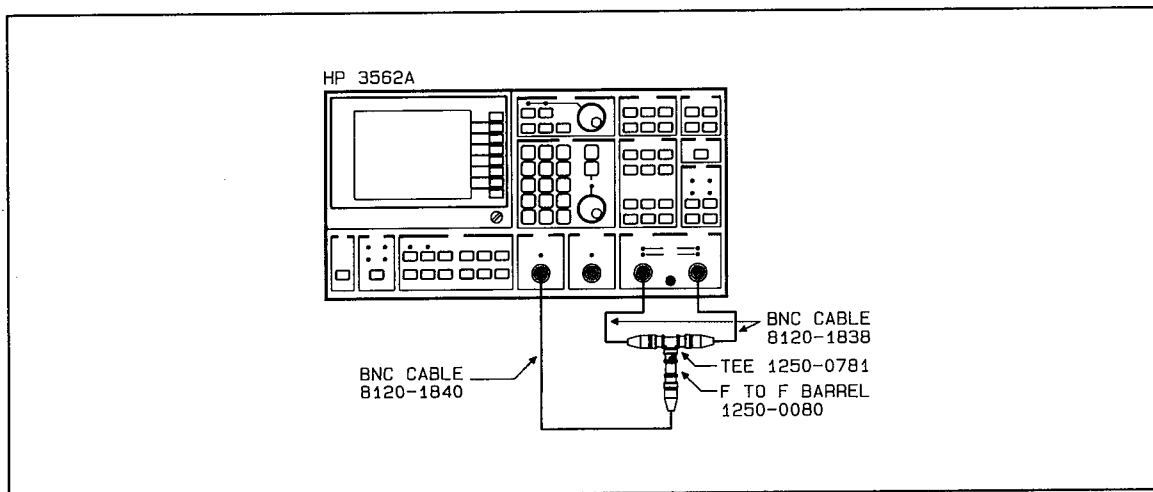

Figure 2-4 (OV) Amplitude and Phase Match Test Setup
- A. Connect the HP 3562A as shown in figure 2-4. The cables to channel 1 and channel 2 must be the same length.